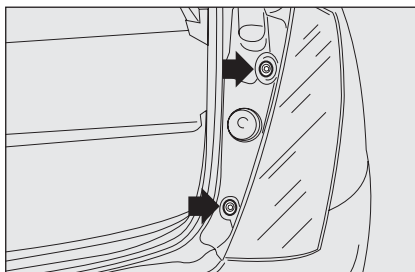

fig. 27
- ☐ loosen the two fastening screws and remove the light unit **fig. 27**;